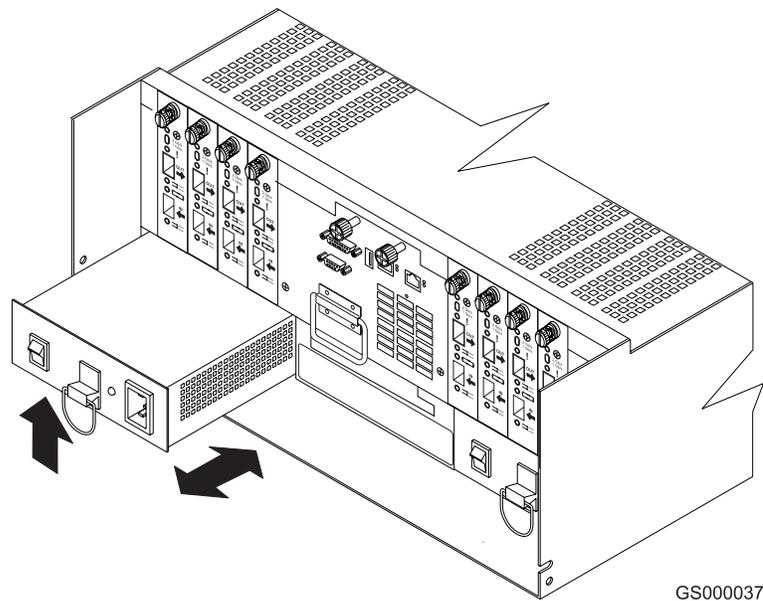

Figure 107. Removing and installing a power supply
3. Remove the failed power supply, as shown in Figure 107.